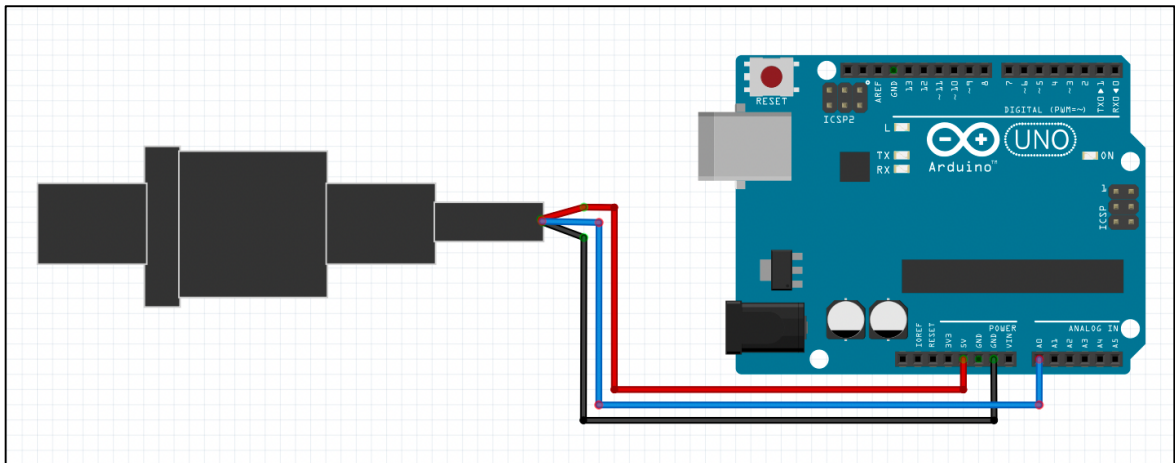

Figure 3. Pressure transducer wiring
- 2.1.1 Re-build the pressure transducer circuit from the previous lab using the provided breadboard and jumper wires, as per the below wiring (*Figure 3*).